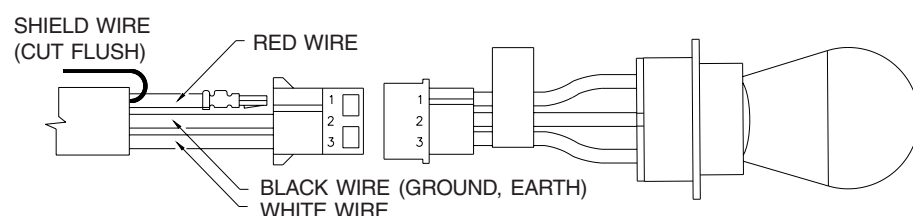

FIGURE 4
8. Use the connection diagram in Figure 4 to connect the wiring for the light application.